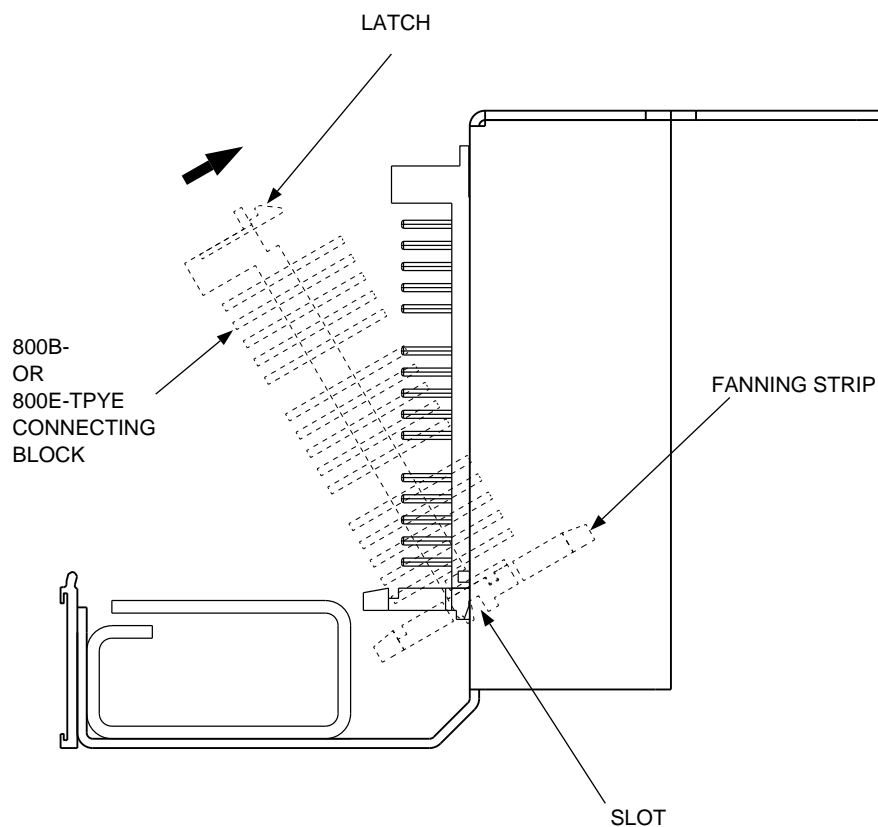

Figure 3. Installing an 800B-Type or 800E-Type Tie-Circuit Connecting Block
Figure 3 does not show connecting block wiring/cabling. All wiring/cabling should be connected before snap-locking the block(s) into the panel mounting bracket. Refer to 365-301-120-1 for instructions on wiring/cabling 800B-type and 800E-type tie-circuit blocks.
2. Place the slot at the bottom of the fanning strip into sawtooth ledge of panel mounting bracket, then lift and rotate the block upward (see Figure 3).